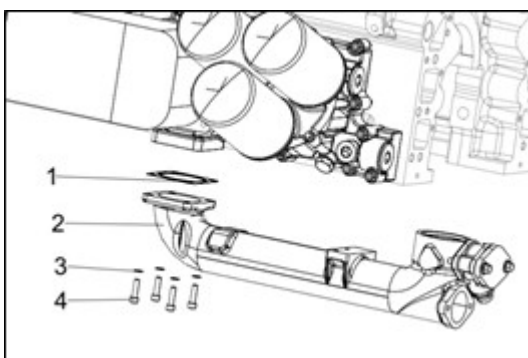

Figure 162
3. Remove the oil cooler inlet pipe, loosen the fixed bolts (Fig 162, item 4) and take the washer (Fig 162, item 3), remove the water inlet pipe, pay attention to the gasket (Fig 162, item 1).